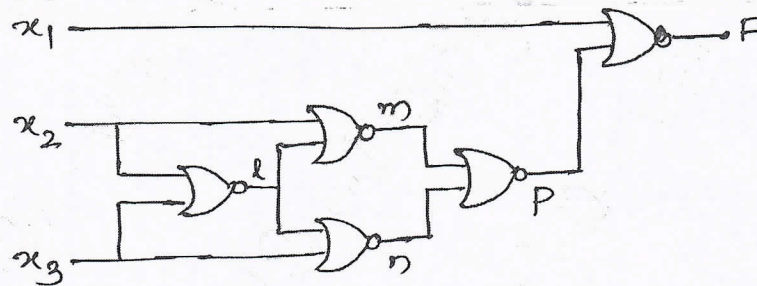

Fig.Q.8(b)
- b. For a given logic network determine tests for checking all single node faults (Fig.Q.8(b)) (10 Marks)